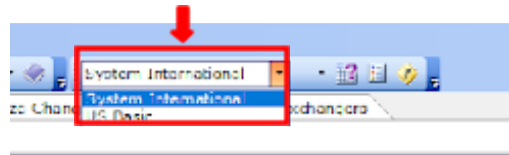

Figure 21: Unit Selector Drop-Down Menu.
18. Click the drop-down menu to select a unit set. There are two default unit sets available: System International and US Basic (Figure 21).